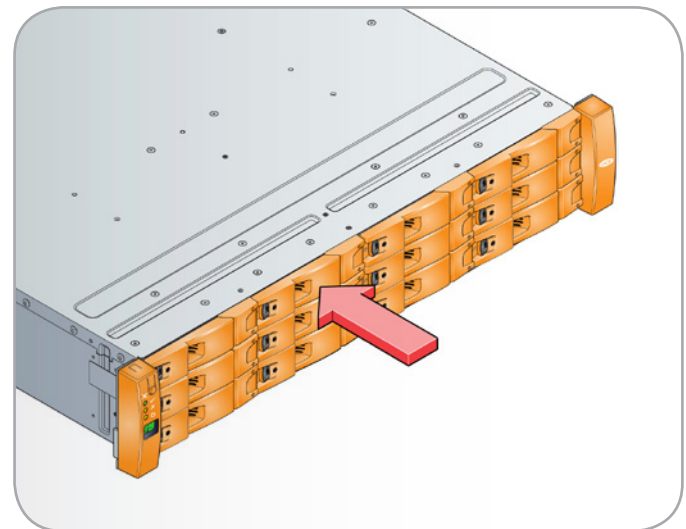

Fig. 92 - Securing the Drive Carrier Module
4. Secure the drive carrier by closing the handle until it fully engages. A click should be heard as the latch engages and holds the handle closed (Fig. 92).